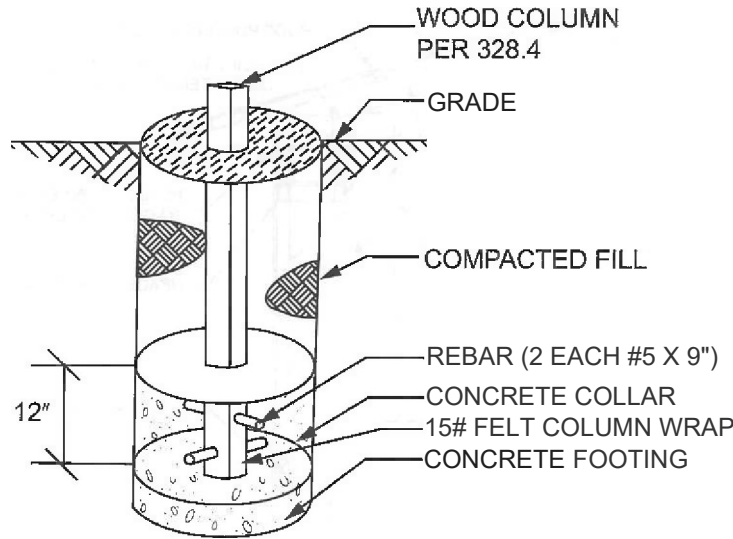

FIGURE 328.1
2. 12 inch high, concrete collar poured on top of footing around the post, with 2-#5 x 9 inch rebar placed through the post at 3 inches and 9 inches from bottom of post in opposite directions. The rebar ends must be 1 1/2 inches from the soil. See Figure 328.1.